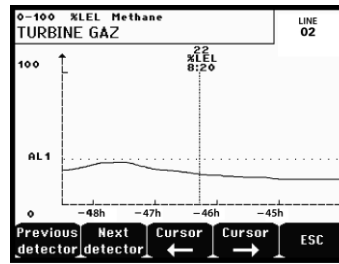

Figure 36: Example of a curve display screen.
- **Curve**: Display of the measurement curves of the last 4 hours (Figure 36). The  $\rightarrow$  and  $\leftarrow$  keys allow cursor displacement through the time scale. The vertical dotted line displays the concentration and time stamp of the point being considered. Escape: return to display of values.